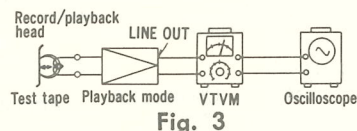

**Fig. 2**
**NOTE 1:** Tape speed can be adjusted through the small hole on the back-side of main case by the ⊖ screw driver (Non metal type) as shown in fig. 2.